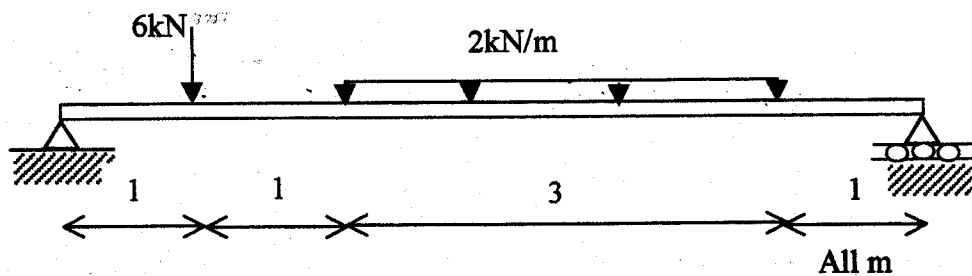

Figure 1
1. For the beam shown in Figure 1, determine the support reactions and draw and dimension the shear force and bending moment diagrams.